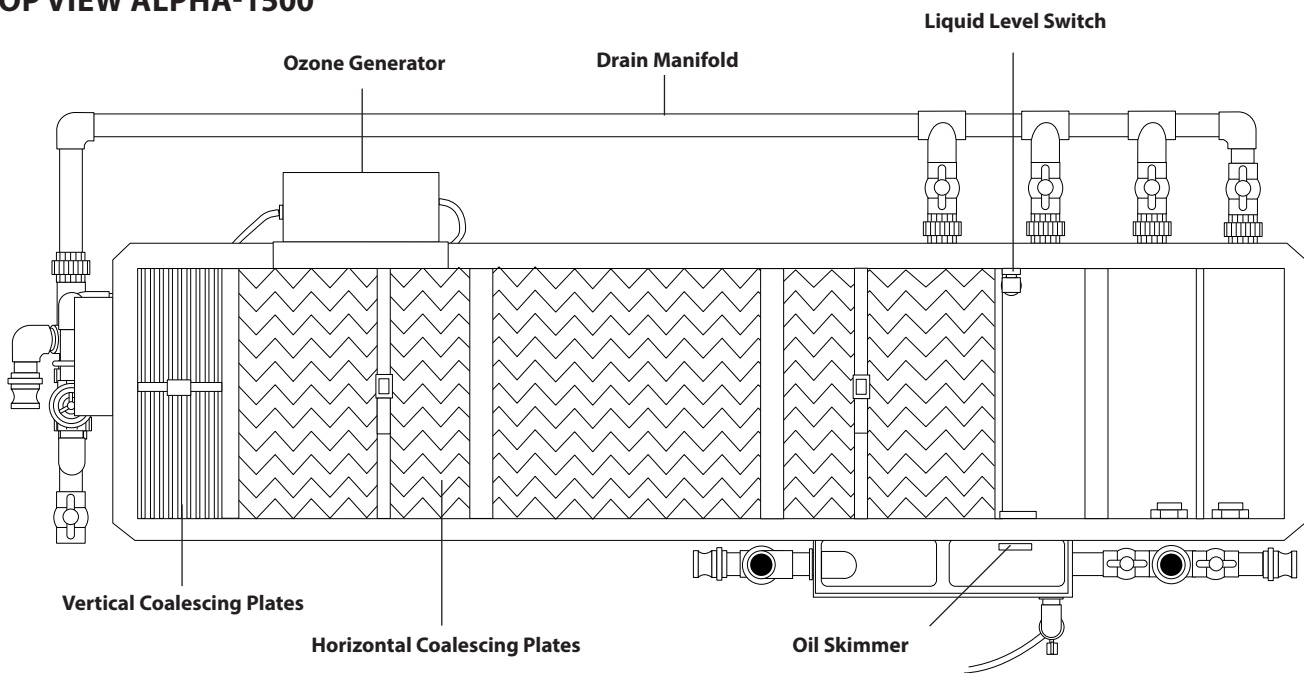

Figure 3
Check the overflow shutoff switch by manually lifting the liquid level switch (see Figure 3).
- Remove the vertical coalescing pack (see Figure 3 for location). To remove, lift with the nylon strap that surrounds the coalescing pack.